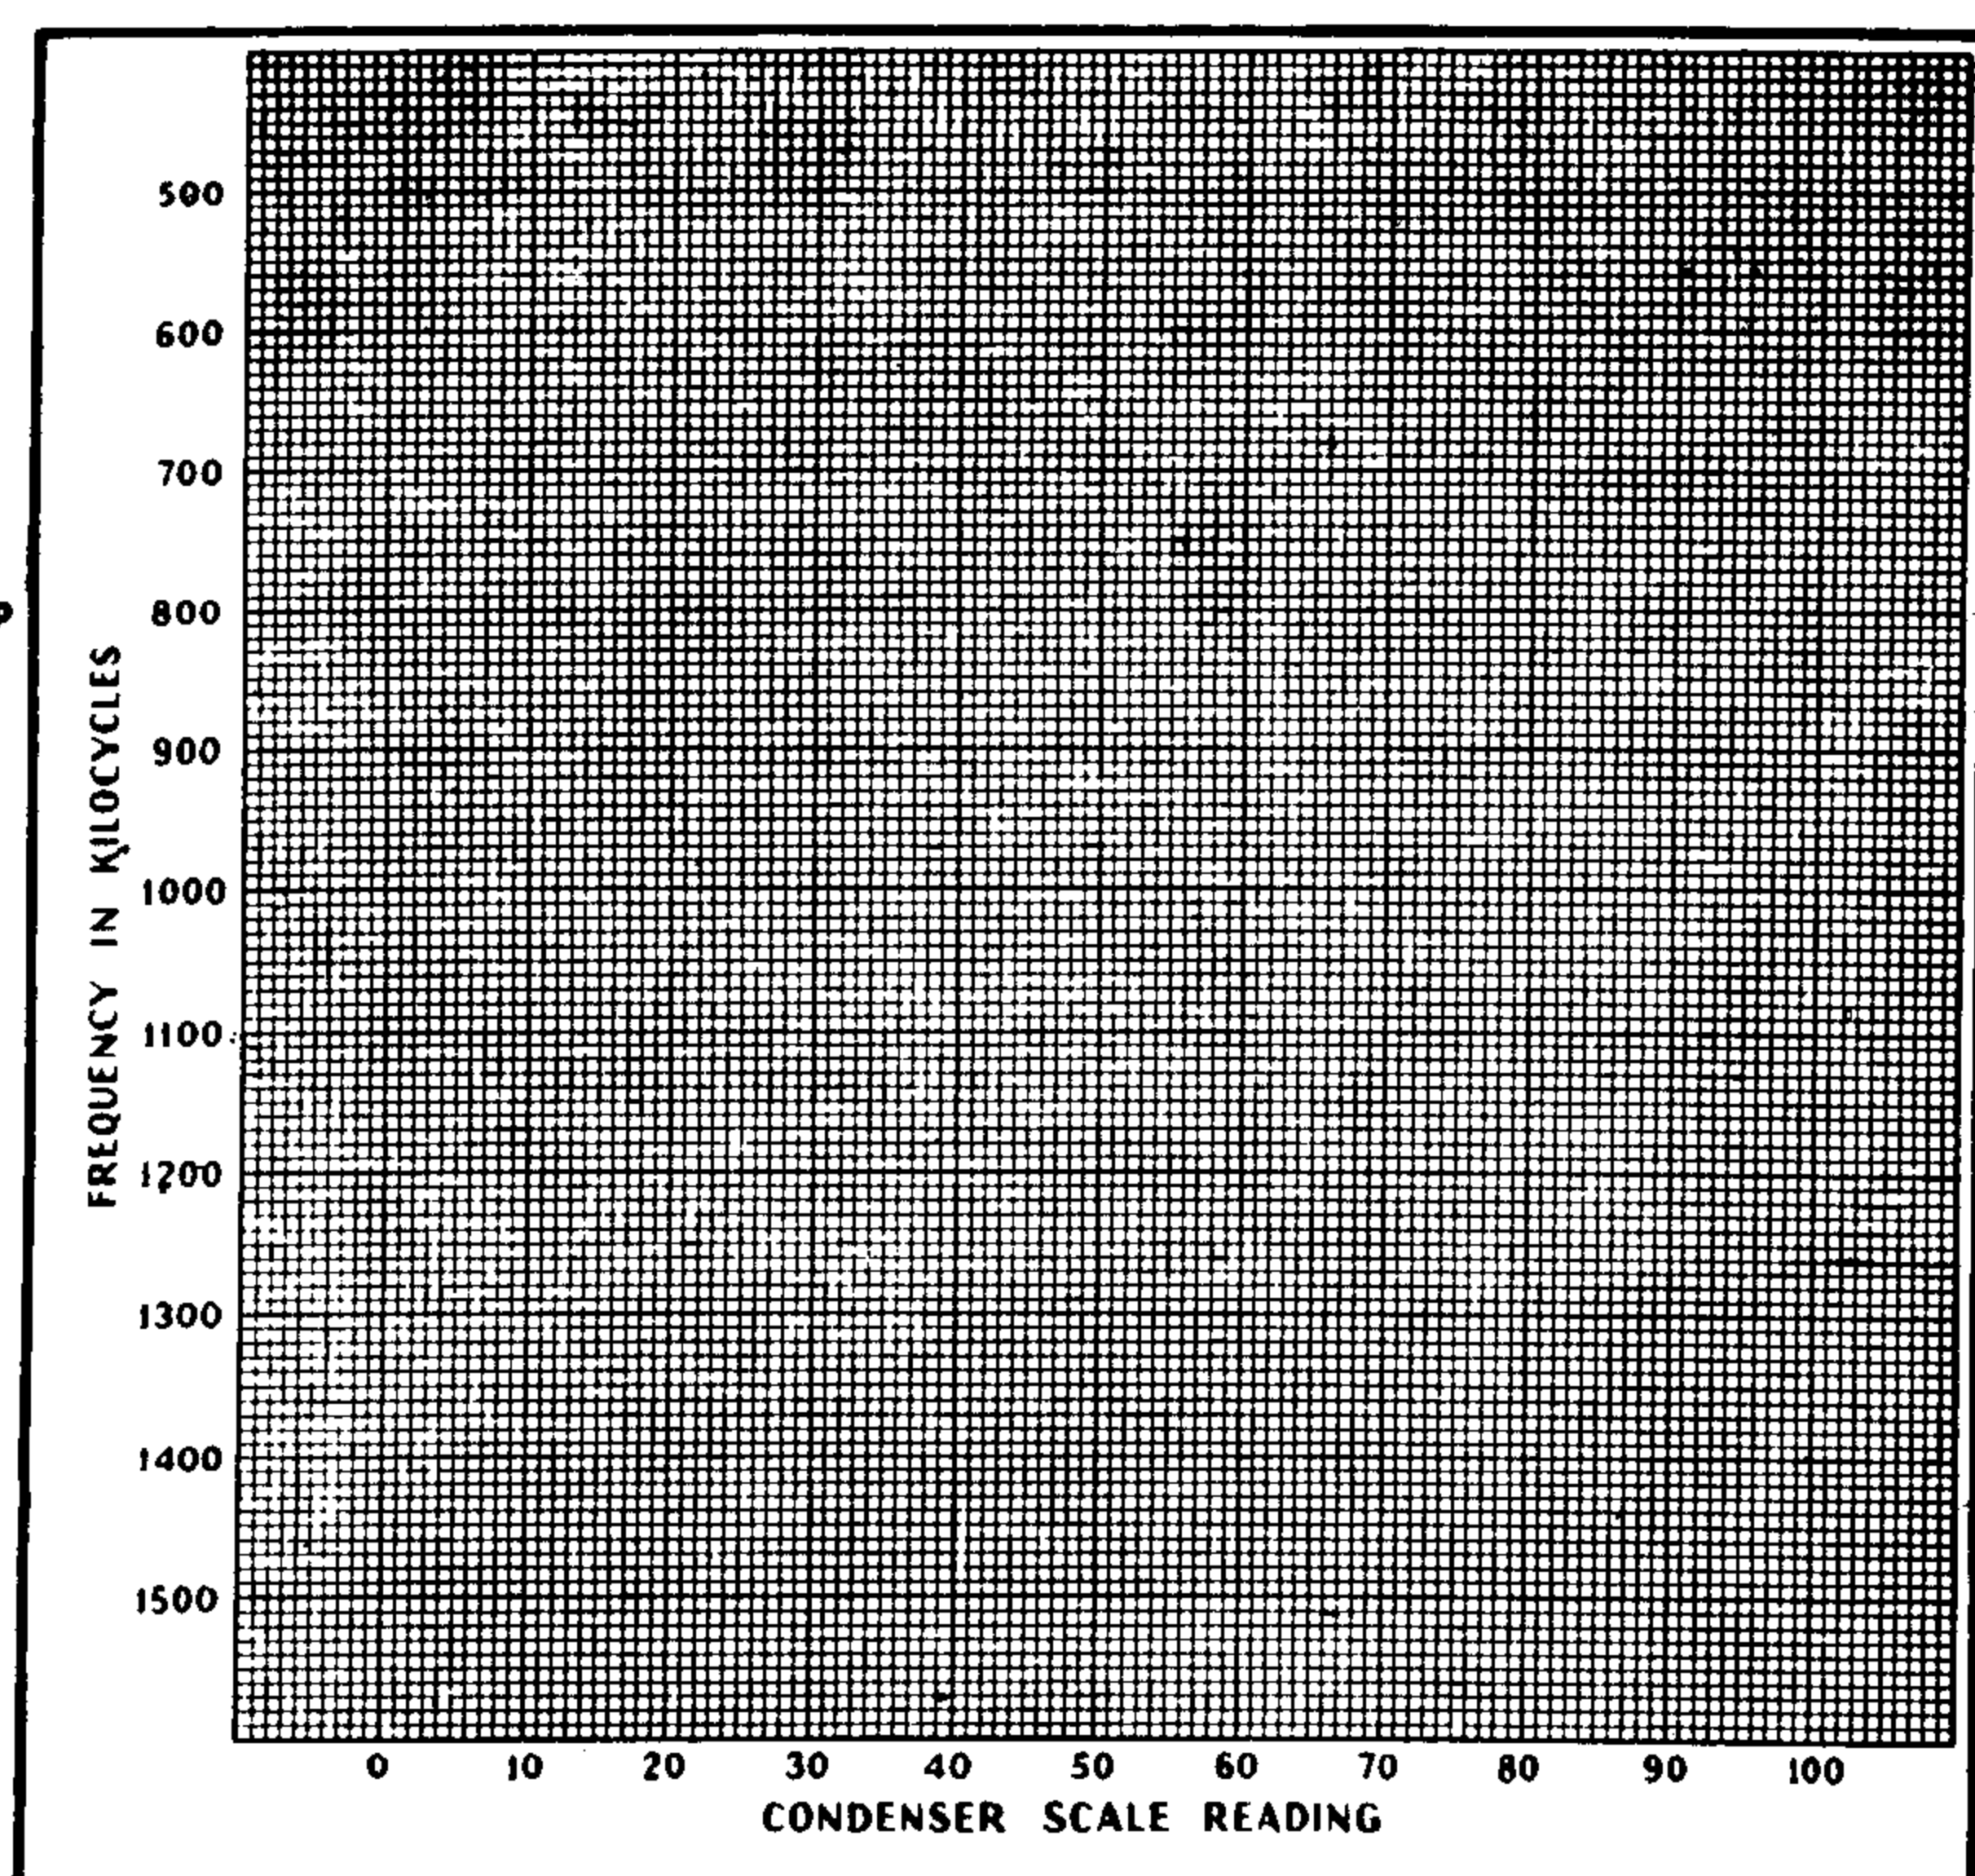

Fig. 16.—Chart For Plotting R.F. Oscillator Calibration Curve.
3. Adjust the dial of the oscillator until its signal is heard at maximum intensity in the receiver or zero beat is obtained with the broadcasting station. Note the reading of this position on the oscillator dial and plot this position on the chart shown in Figure 16. The vertical divisions represent frequency and the horizontal divisions, the oscillator scale readings.